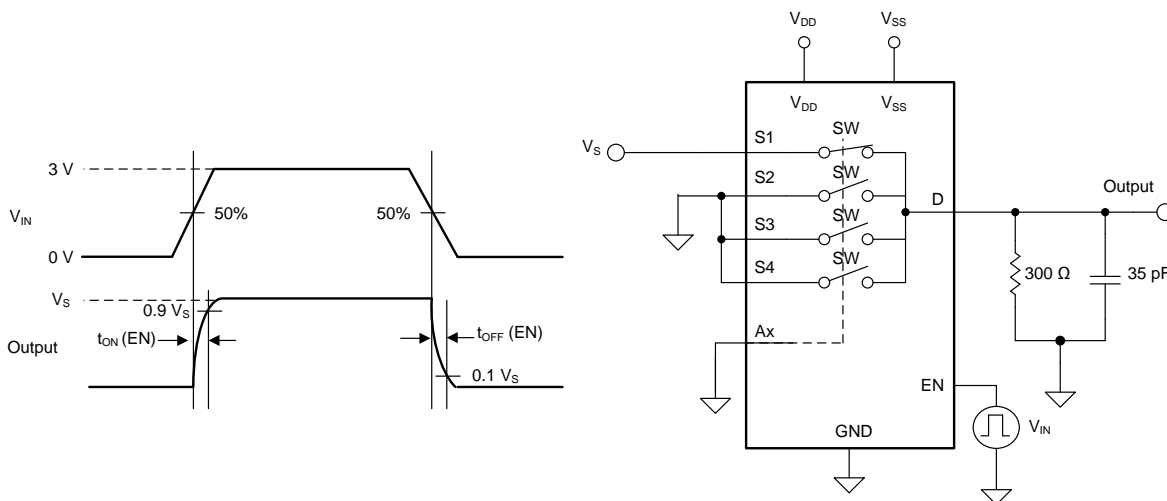

Figure 22. Turn-On and Turn-Off Time Measurement Setup
Turn-on time is defined as the time taken by the output of the TMUX6104 to rise to a 90% final value after the enable signal has risen to a 50% final value. Figure 22 shows the setup used to measure turn-on time. Turn-on time is denoted by the symbol  $t_{ON (EN)}$ .
Turn off time is defined as the time taken by the output of the TMUX6104 to fall to a 10% initial value after the enable signal has fallen to a 50% initial value. Figure 22 shows the setup used to measure turn-off time. Turn-off time is denoted by the symbol  $t_{OFF (EN)}$ .